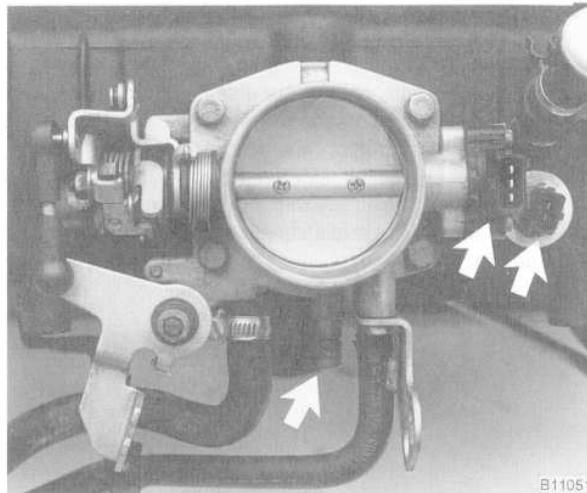

Fig. 12. Coolant hose, throttle switch connector and intake air temperature sensor connector (**arrows**) to be removed or disconnected.
14. Label and disconnect the coolant hose from the throttle housing. Disconnect the connectors from the throttle switch and the intake air temperature sensor. See Fig. 12.